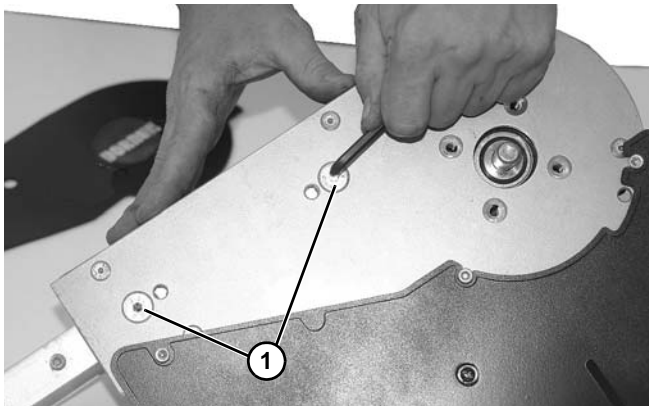

Figure 194
4. Remove two socket head screws (Figure 194, item 1) on side of drive spindle.